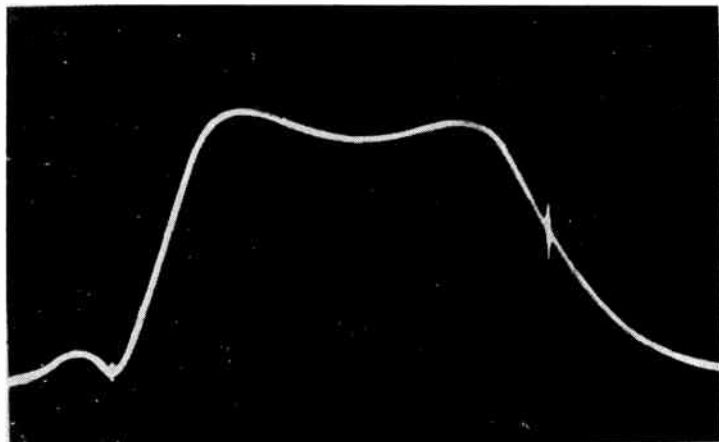
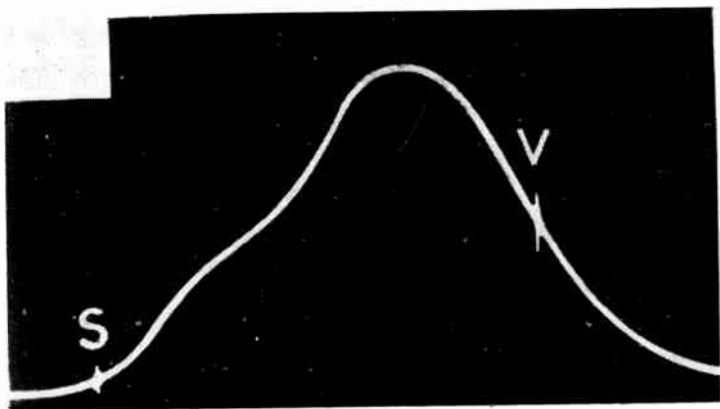

Fig. 2-10. Normal i-f response with sound and video markers.
Fig. 3-2 Bandwidth too narrow. The video marker is properly placed on the response.
Oscillator drift, or adjustment of a fine tuning control, in the tuner will vary the position of video and sound signals on the frequency response of the i-f amplifier, as observed at the video detector output. Fig. 2-10 is a normal i-f response. The sound marker, at the left, is in a dip caused by an accompanying sound trap. The video marker is about half way up the opposite slope.
A satisfactory frequency response is shown by Fig. 2-10. Faulty alignments are illustrated by frequency responses of Figs. 3-2 to 3-5.
6. Narrow bandwidth (Fig. 3-2) causes poor reproduction of fine details because the higher video frequencies carrying such details are toward the sound side of the i-f response. This side will have little gain because a set operator naturally adjusts the fine tuning for a video intermediate high enough on the gain curve to produce satisfactory picture strength or contrast.